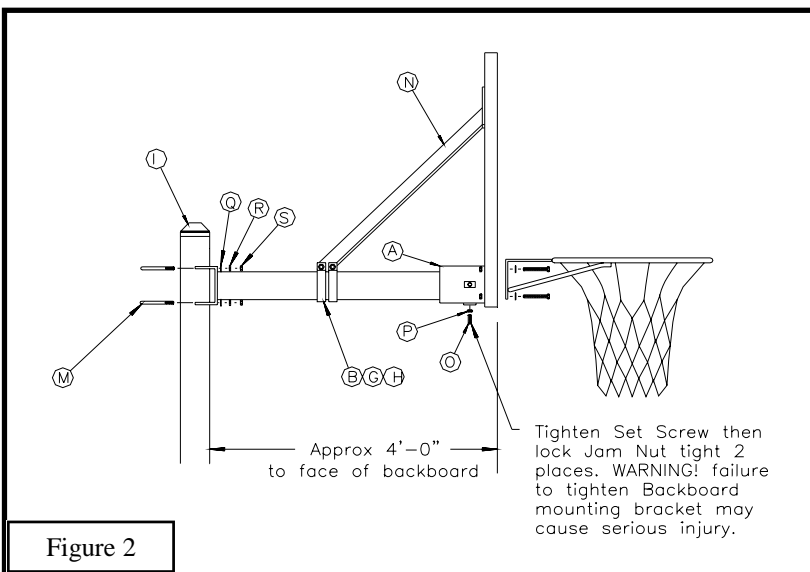
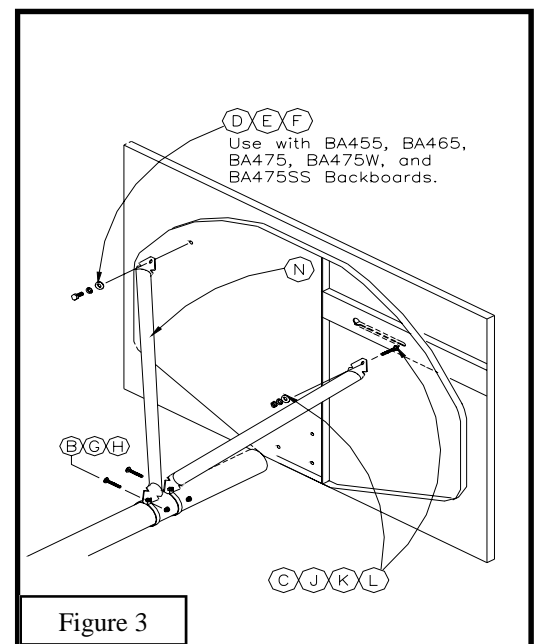
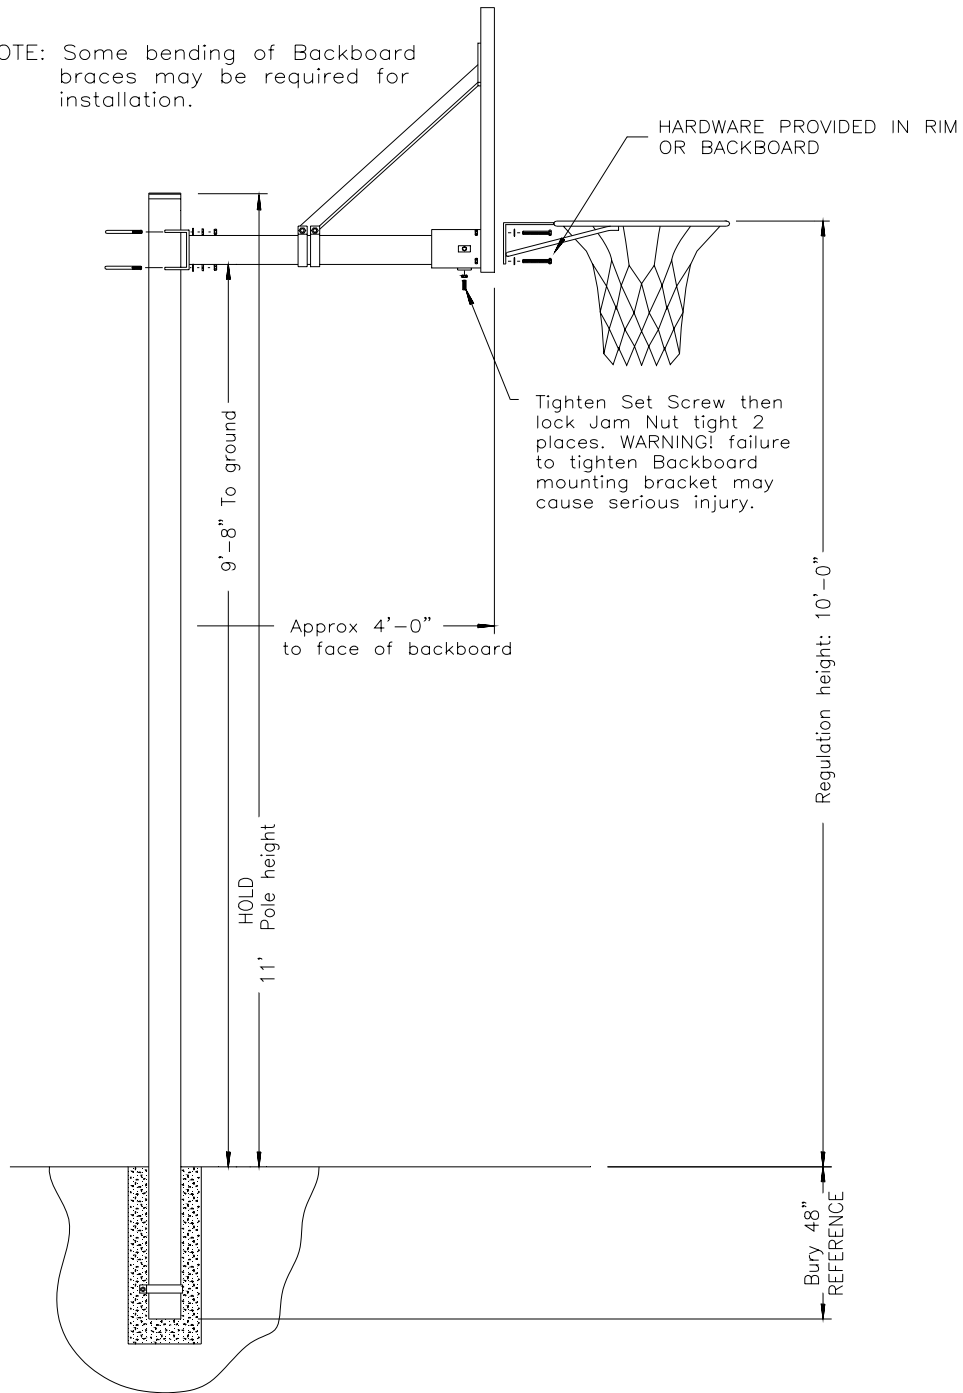

Figure 2
Figure 3
Figure 4
3. Mix concrete according to the directions on the bag. It is advantageous to have the mixture "wet". This will increase your working time and allow batches to mix in the hole. Pour the hole full to ground level. Attach band clamp to bottom end of pole and insert pole into concrete while vibrating concrete to allow it to surround the pole completely. The pole height from the ground should be 11 feet (see **Figure 4**).
4. Clean excess concrete from pole. Level the pole in the hole and allow the footing to cure for seven (7) days. Only after the concrete has cured for seven days should you proceed.
5. Seven days have passed. Secure the Extension Arm to the pole at a distance of 9'8" to the bottom of the arm (see **Figure 4**) to the playing surface with the 4-1/2" U-bolts (M), 1/2" Flat Washers (Q), 1/2" Lock Washers (R), and 1/2" Hex Nuts (S). **NOTE:** Middle hole does not require a Flat Washer (Q) (see **Figure 2**).
6. Assemble rim and backboard to the *Backboard Mounting Bracket* (A) using the hardware provided with the rim or backboard. Slide the 4-1/2" Band Clamps (B) on to the Extension Arm and attach the *Backboard Mounting Bracket* (A) assembly containing the backboard and rim to the end of the Extension Arm with 1/2" Square Head Set Screws (O) as shown in (**Figure 2**) making sure rim is level. Fasten *Backboard Braces* (N) to the backboard with 7/16" x 2" Carriage Bolts (C), 7/16" Hex Nuts (J), 7/16" Flat Washers (K), 7/16" Lock Washers (L), or the 3/8" x 1" Hex Bolt (D), 3/8" Lock Washer (E) and 3/8" Flat Washer (F), then to the 4-1/2" Band Clamps (B) with 5/16" x 2" Carriage Bolts (G), and 5/16" Flange Nuts (H) as shown in (**Figure 3**).